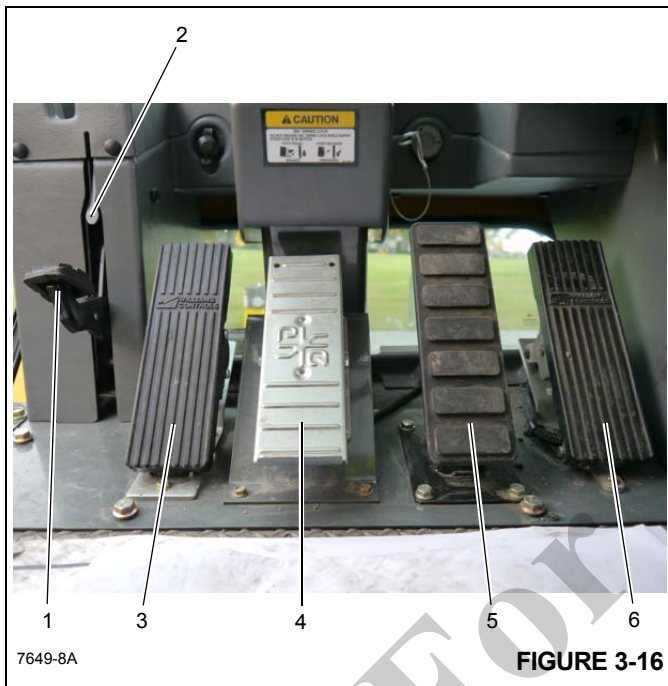

Figure 3-16 Item Numbers
The 360° Swing Lock Pedal (1) (Figure 3-16) is located on the left side of the crane cab floor. The pedal is used to activate the swing lock to prevent the superstructure from turning. To release the swing lock, pull up on the 360° Swing Lock Release Lever (2).
The Swing Brake Pedal (3) (Figure 3-16) is located on the left side of the cab floor. The swing brake pedal is used to actuate the swing brake to slow or stop swing motion. Braking is proportional to pedal depression. With the pedal not depressed and the swing brake control valve disengaged, hydraulic pressure is applied to the brake, overcoming spring pressure and releasing the brake. Depressing the pedal actuates a swing power brake valve to apply pressure to the brake assembly. This pressure aids the spring pressure to overcome the hydraulic pressure being
The Telescope Control Pedal (4) (Figure 3-16) is supplied when the crane is equipped with an auxiliary hoist, is located in the middle of the cab floor. Pushing forward on the top of the pedal will extend the boom and pushing down on the bottom of the pedal will retract the boom.
The Service Brake Pedal (5) (Figure 3-16) is the second pedal from the right on the cab floor. Depressing the pedal controls the application of the service brakes.
The Foot Throttle Pedal (6) (Figure 3-16) is located on the right side of the floor. It is used to control engine RPM which increases or decreases proportionately with the amount of foot pressure applied to the pedal. The pedal is electrically connected to the superstructure control module which sends the signal to the engine ECM via the J1939 data link.